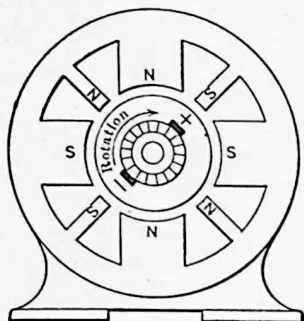

FIG. 129. Four-pole generator with commutating poles.
Note, in Fig. 129, that if we start with the north pole at the top and go around the frame clockwise (the direction in
**Prob. 7a.** Draw the field coils on the main shunt poles and commutating poles in the generator, Fig. 129, showing the direction and source of current in each coil.